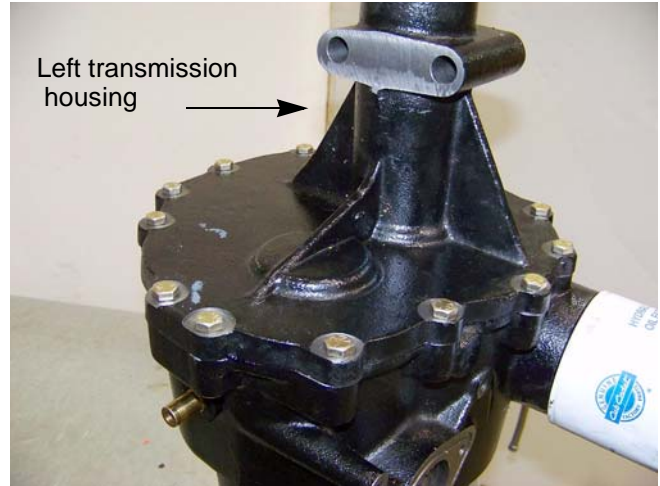

Figure 5.43
18. Remove the fourteen screws securing the left transmission housing to the right transmission housing using a 1/2" wrench. See Figure 5.43.